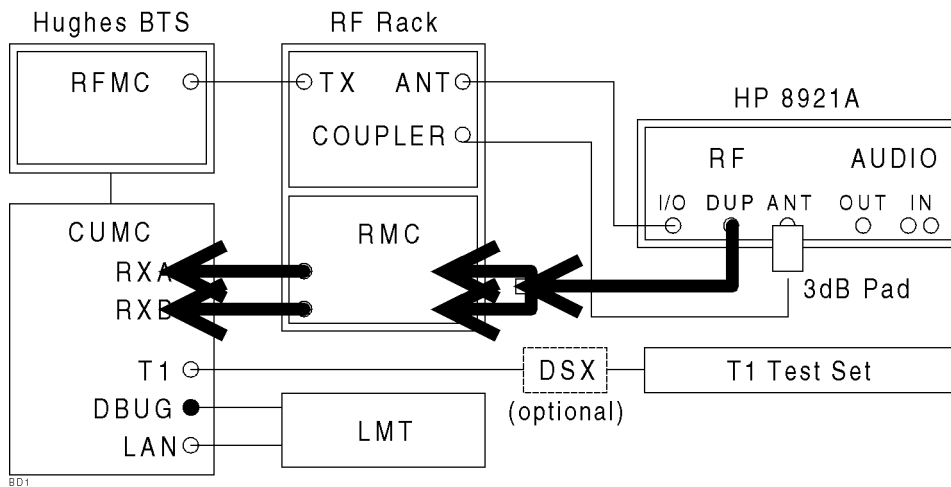

Figure 9 RF Signal Path and Direction for RSSI Measurement
Figure 9 highlights the path and the direction of the RF signal during the receiver RSSI measurement (TEST_20).
This test verifies the channel-under-test properly measures the received signal power level on both diversity paths. The test is also run at high and low power levels to verify that the receiver properly reacts to changes in input signal level. The Test Set injects a test signal of a known power level (including losses) into the RMC that supports the receive channel-under-test. A command is executed on the channel unit (CU), which then displays the current RSSI power on both diversity paths. See figure 9 for information on the signal path and direction.